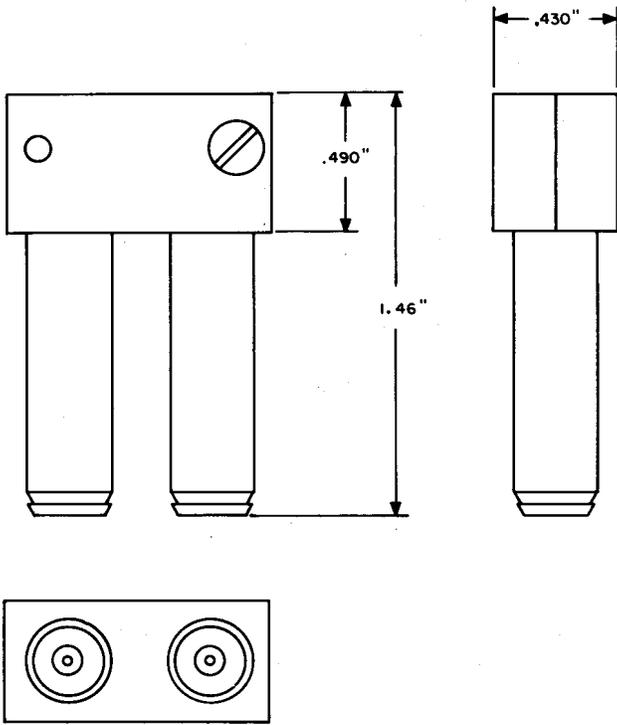

Fig. 6—481-Type Plug
2.07 481-Type: The 481-type plugs (Fig. 6) consist of a plug case, a plug cable assembly, and a plug body assembly. The 481-type plugs have low profile 75-ohm patch plugs with a flair flanged out to firmly lock the terminals to the plug bodies. The 481-type plugs are used in the 500-type Protection Switching System.